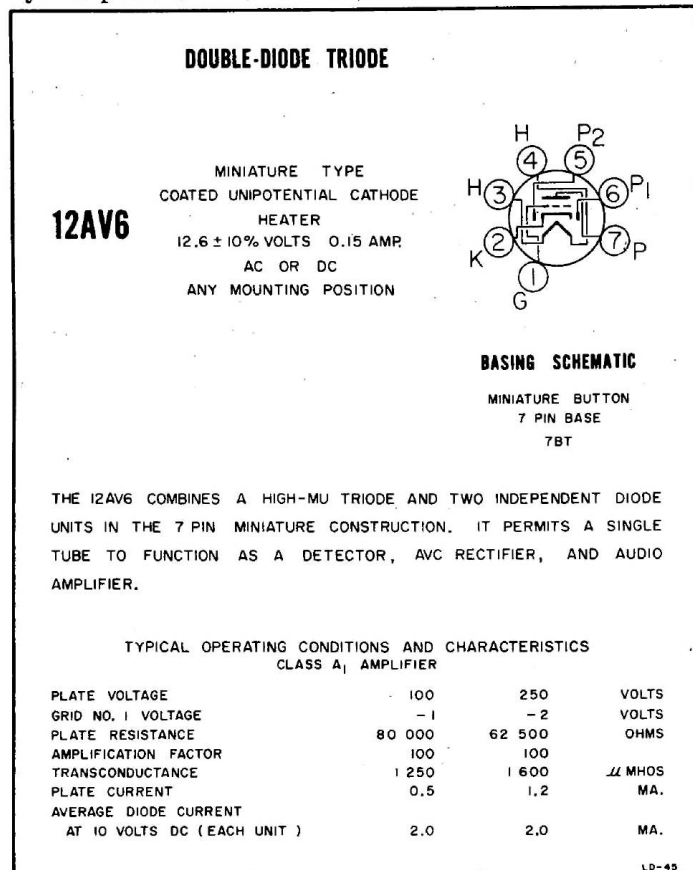

Figure 4-2. Condensed 12AV6 Tube Data
a. Consult a standard tube data handbook for the specific tube to be tested. As an example see figure 4-2, for a condensed version of such information. This condensed version eliminates data not pertinent to tube testing.
b. Set the first (left) FILAMENT selector on position C. This is the third switch position (counting A=1, B=2, and C=3) and connects to pin 3 of the tube under test. See figure 4-2 for tube basing. Pin 3 connects one side of the filament of the tube.